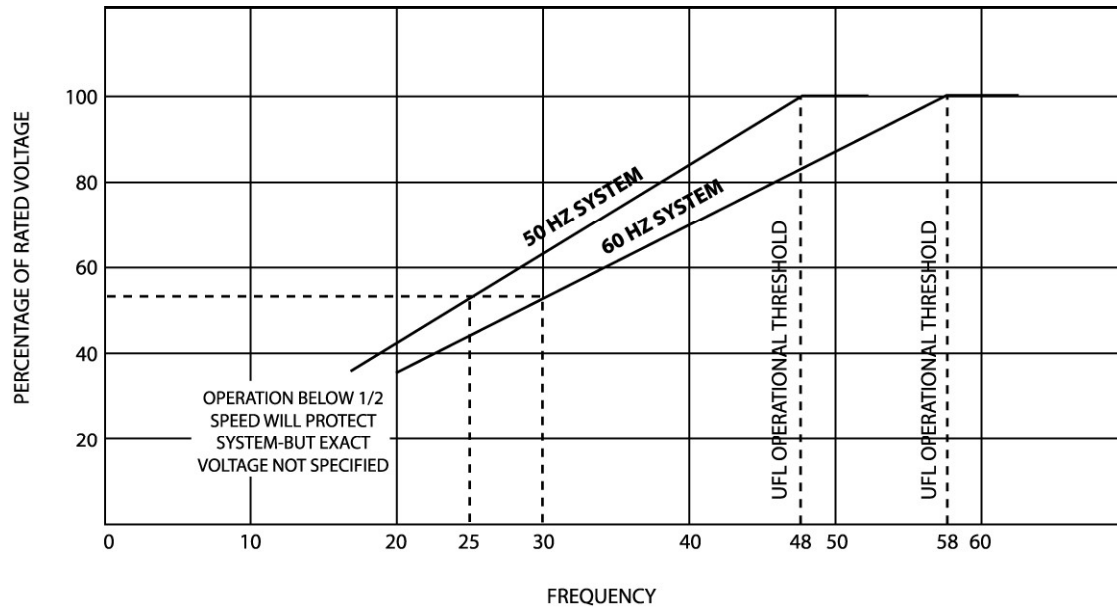

Figure 1: Standard UFL operational threshold for 50/60 Hz system
**Underfrequency protection:** Except where flat regulation, V/Hz sensing or UFL with special operational threshold is specified in the purchase order, the underfrequency limit (UFL) circuit will provide underfrequency protection by reducing voltage in proportion to frequency. The UFL operational threshold where limiting starts is as follows (see also Figure 1):